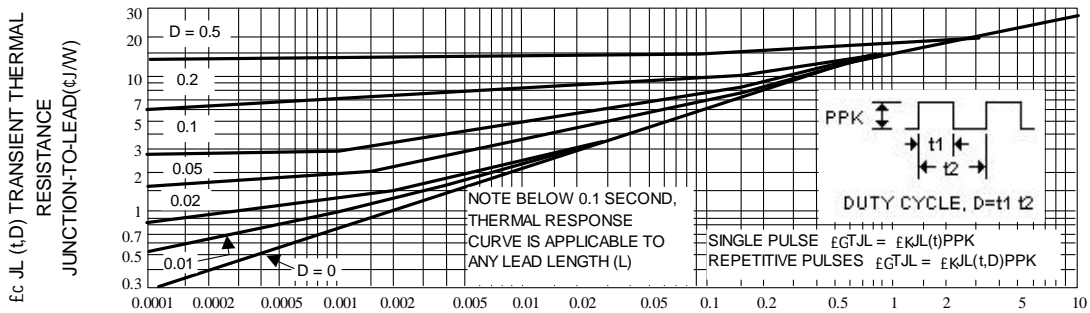
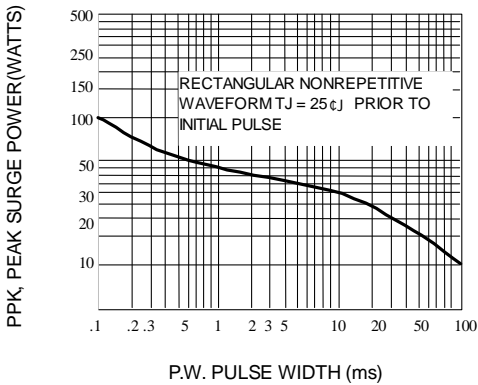
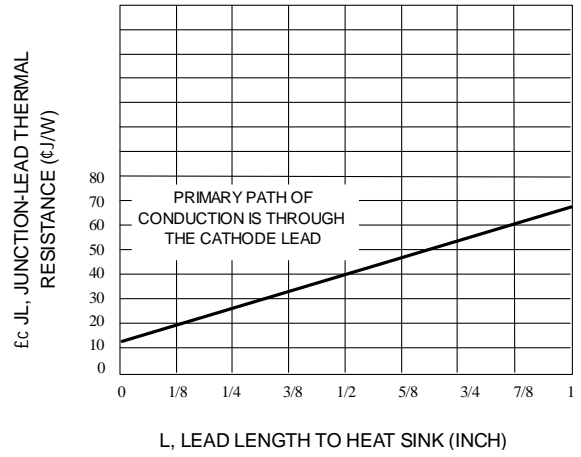

Fig. 2-TYPICAL THERMAL RESPONSE L,
Fig. 3-MAXIMUM SURGE POWER
Fig. 10-TYPICAL THERMAL RESISTANCE
4. SURGE CURRENT (Ir) NON-REPETITIVE - The rating listed in the electrical characteristics table is maximum peak, non-repetitive, reverse surge current of 1/2 square wave or equivalent sine wave pulse of 1/120 second duration superimposed on the test current, IZT, per JEDEC standards, however, actual device capability is as described in Figure 3.
$\theta_{JT}$  is the increase in junction temperature above the lead temperature and may be found from Figure 2 for a train of power pulses or from Figure 10 for dc power.
Data of Figure 2 should not be used to compute surge capability. Surge limitations are given in Figure 3. They are lower than would be expected by considering only junction temperature, as current crowding effects cause temperatures to be extremely high in small spots resulting in device degradation should the limits of Figure 3 be exceeded.